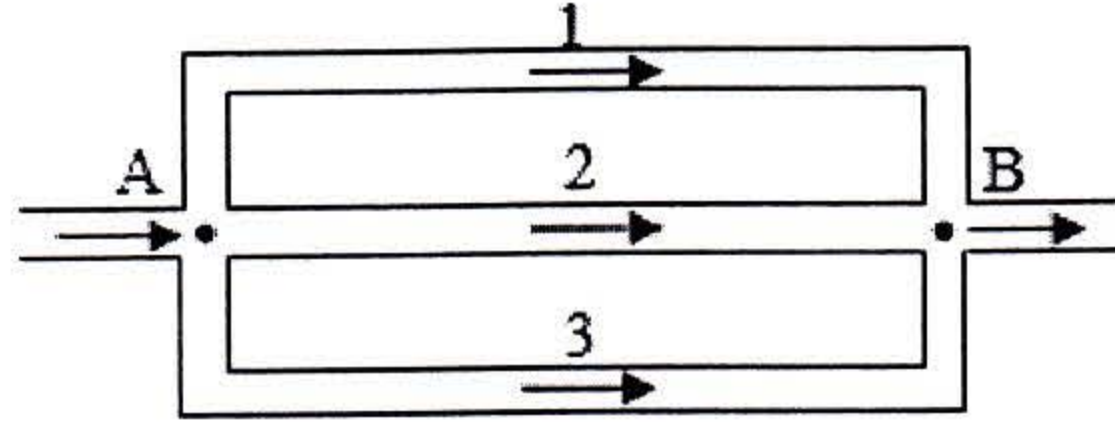

Figure: 04
- (d) The following information's are given for the parallel pipe connection with three pipes shown in Fig:04 [10]